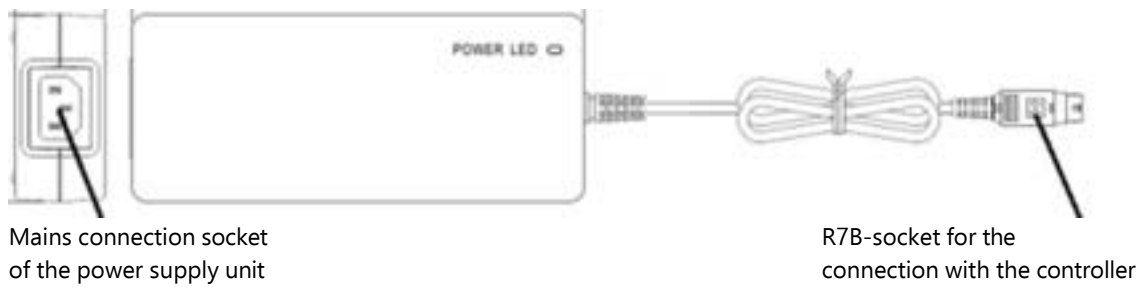

figure 2
- Connect the power supply (scope of delivery no. 5) to the voltage socket (figure 2/4) of the controller with the R7B power supply plug.